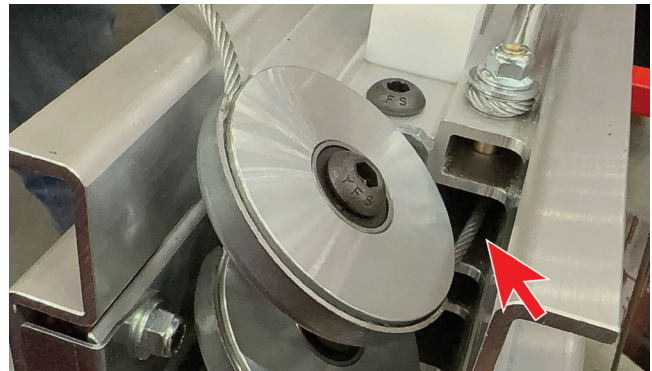

Figure 4-16: Routing Cable from Top Pulley and Down Between Masts
27. Route the cable from the second mast's top pulley and into the area between the back side of the second mast and the front side of the third mast (see Figure 4-16). NOTE: The end of the cable will point to this area between the masts as it exits the top pulley. Move the cable down between the mast sections until it exits the bottom of the mast assembly. Continue pulling the cable until all slack is removed.
36. Route the cable from the third mast's top pulley and into the area between the back side of the third mast and the front side of the rear mast (see Figure 4-16). NOTE: The end of the cable will point to this area between the masts as it exits the top pulley. Move the cable down between the mast sections until it exits the bottom of the mast assembly. Continue pulling the cable until all slack is removed.